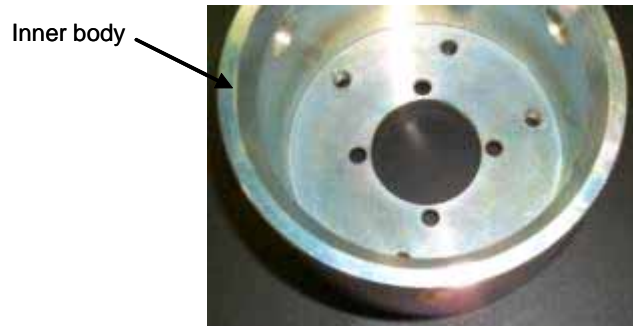
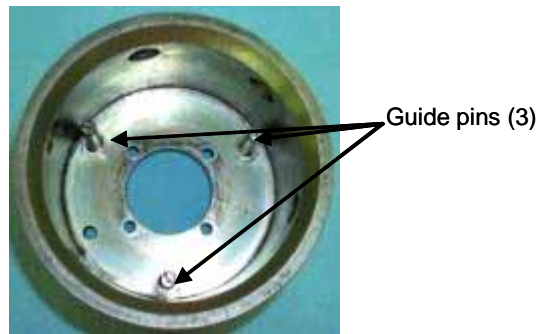

Figure 68. Inner body.
Figure 69. Placement of the guide pins.
1. Place the inner shell top down on a workbench (figure 68). Make sure the guide pins are tight. If they are loose, clean pin threads and use a high-strength thread locker (figure 69).